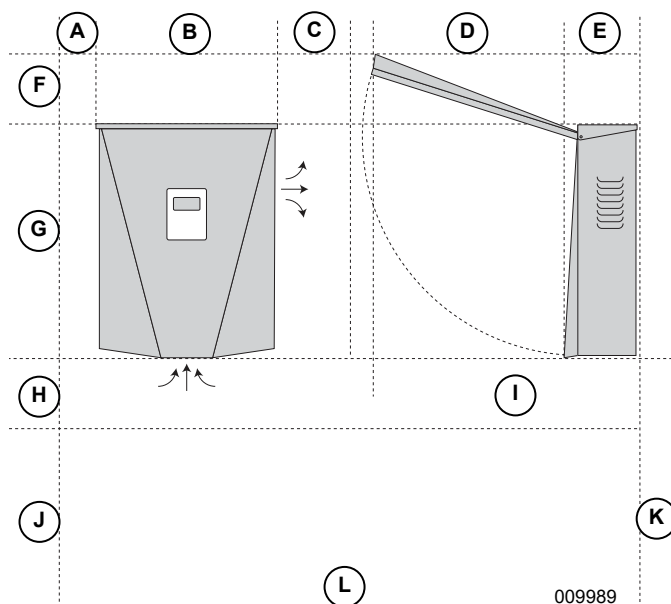

Figure 4-1. Mounting Clearances
- See Figure 4-1. Observe all mounting clearances.